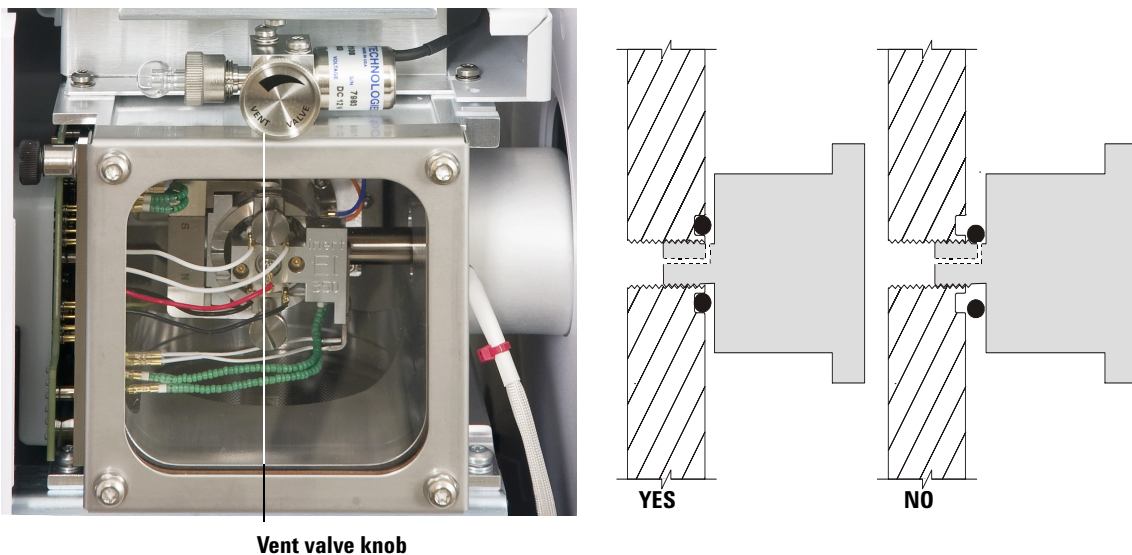

Figure 14 The MS vent valve knob
- 9 Turn the vent valve knob (Figure 14) counterclockwise *only* 3/4 turn or until you hear the hissing sound of air flowing into the analyzer chamber.